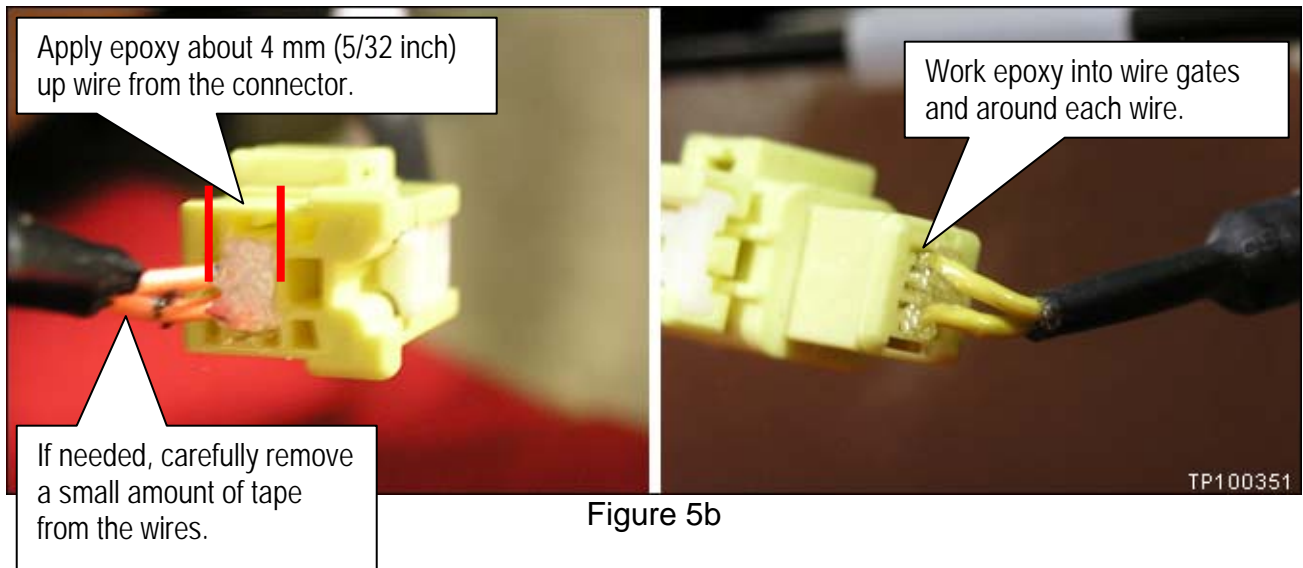

Figure 5b
7. Apply the epoxy to the back side (wire gates) of the side air bag harness connector (see Figure 5b).